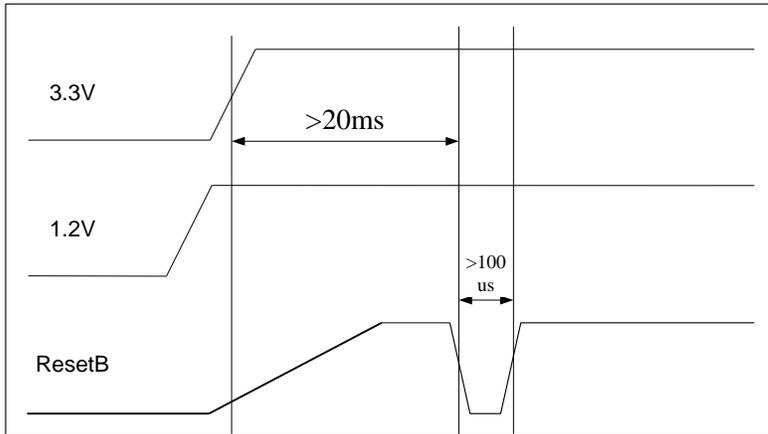

Figure 5: Power-on Reset Function's Sequence external global reset
2. RB signal is generate by system global reset. In this case, 1.2V should be earlier than 3.3V, the power supply should be valid and stable for at least 20ms before the reset signal is valid. The pulse width of valid reset signal should be at least 100us. Otherwise, the chip can’t work well. The timing is shown in **Figure 5**.